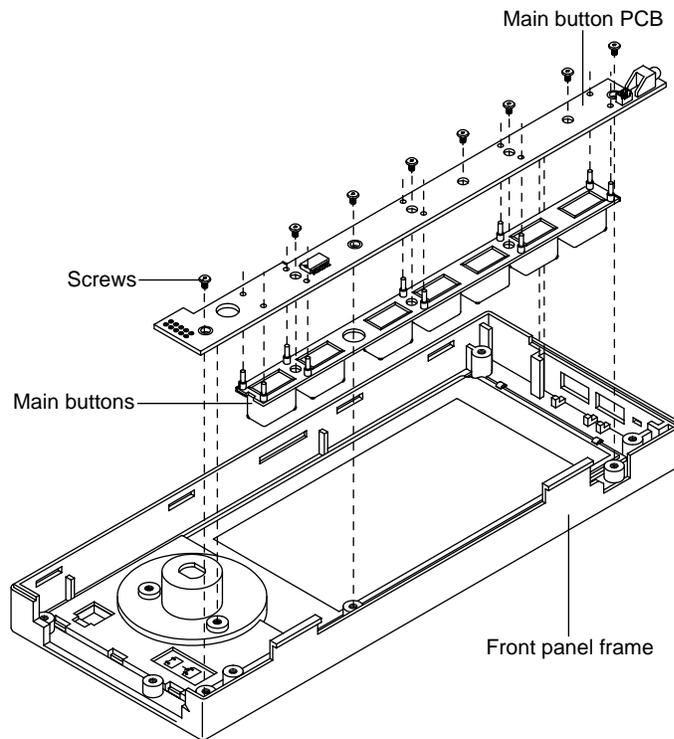

Figure 6-12: Removing Main Button PCB
1. Remove the eight screws securing the main button PCB to the front panel as shown in Figure 6-12.